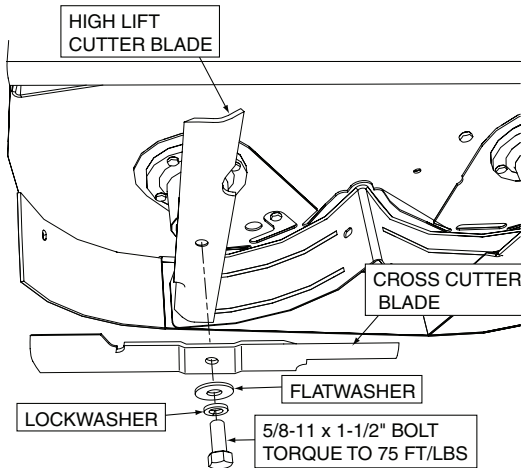

Figure 2-7. High Lift Cutter Blade Installation
6. Install the new cutter blades included with the SZL36 / SFZ36 Installation Kit and secure using the hardware removed in Section 2.1, Step 4. On the right side of the cutter deck, install the cross cutter blade below the high lift cutter blade as shown in Figure 2-7. Use optional Blade Buddy tool P/N 9212 to assist in securing the cutter blades.